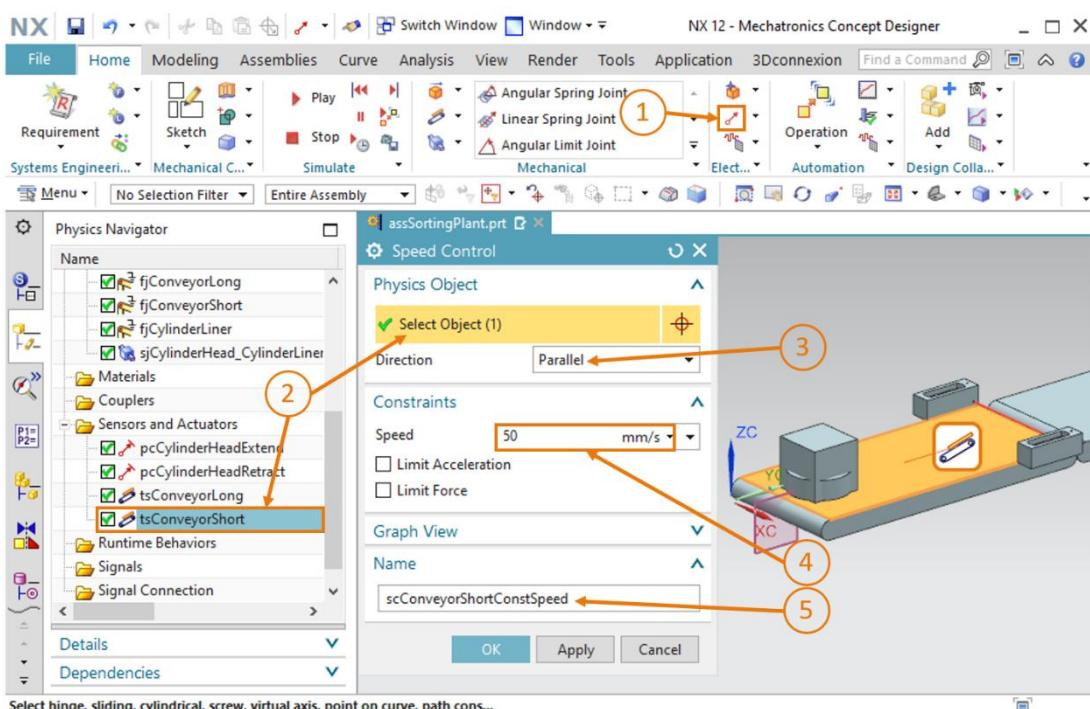

Figure 45: Creating a speed control for a conveyor belt
- Start by creating the speed control for the specification of a constant speed. To do this, start the "Speed Control" command in the "Electrical" menu group or via the Command Finder (see Figure 45, step 1). This opens the "Speed Control" command window. Same as for the position control in Chapter 7.6, a movable element of your assembly to which the speed is to apply is required as the physics object. In this case, this is your transport surface "**tsConveyorShort**", which you are to select as shown in Figure 45, step 2. The direction is to run "**Parallel**" with the vector of the transport surface (see Figure 45, step 3) Specify a constant speed of **50 mm/s** as a constraint (see Figure 45, step 4). Assign the name "**scConveyorShortConstSpeed**" (see Figure 45, step 5) and complete the creation of the speed control by clicking the "OK" button. The prefix "sc" stands for "speed control".